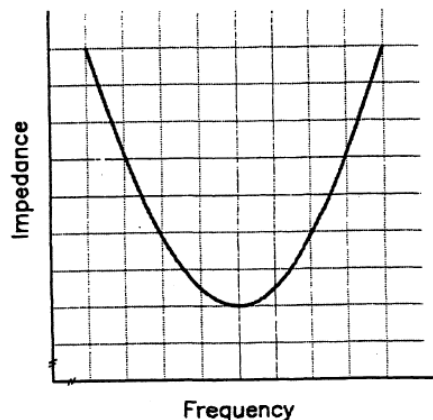

Figure 13 – Impedance characteristic of a series resonant circuit
49. The impedance characteristic of a series resonant circuit can be represented in graphical form as shown in Figure 13.